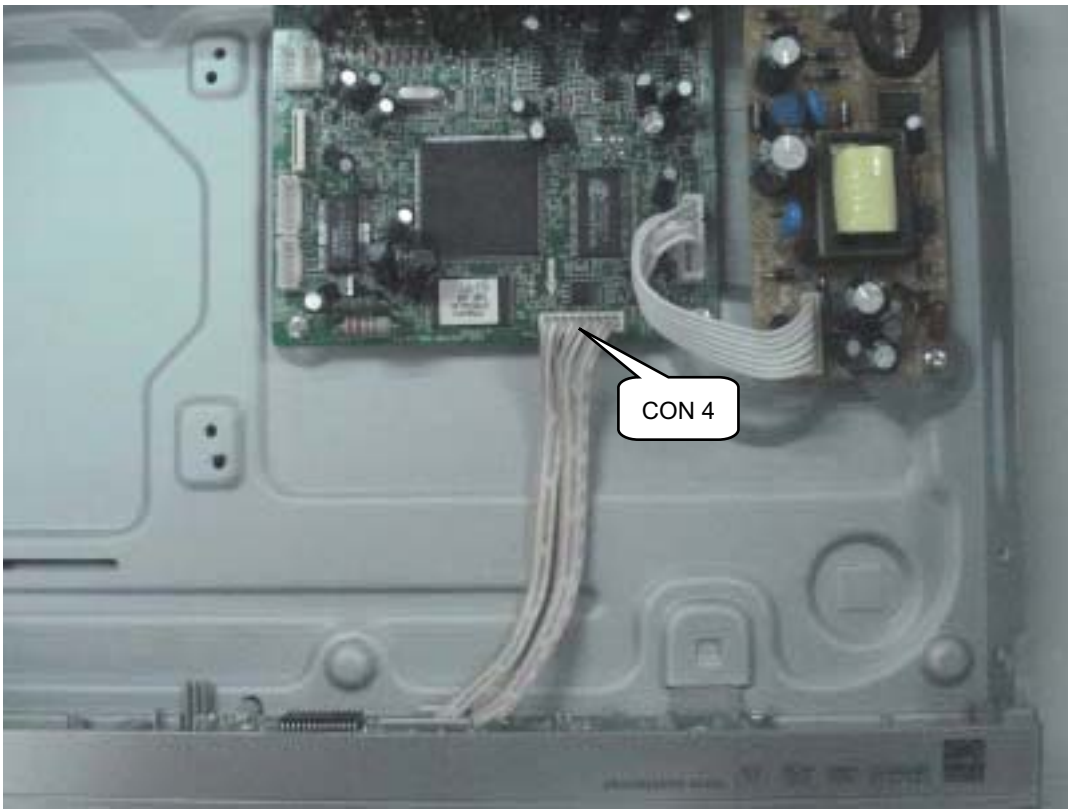

Figure 5
Step5: Dismantling Front Panel, disconnect the 1 connector, then release the snaps on the both sides of Front Panel and bottom cabinet , then gently pull the Panel out from the set. (Figure 5 & 6 & 7)